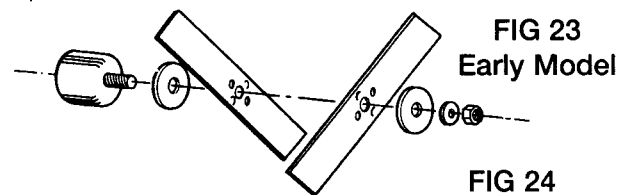
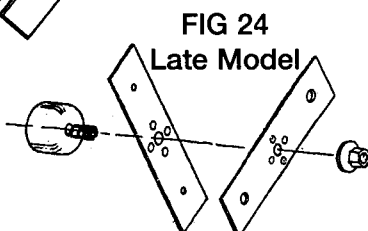

FIG 23
FIG 24
4. Remove one small washer, one large washer and two blades (Fig 24), later models do not have small or large washers (Fig. 23 & 24). Before installing, clean all grit and grease. Assemble these parts clean and dry. Fit large washer (only on early models), new blades with spigots of one blade interlocking with holes on opposite blade, large washer, one small washer, and nut. Tighten nut to 15-20 ft. lbs. (20-27Nm) or hand tight with 8" (200mm) or longer spanner.